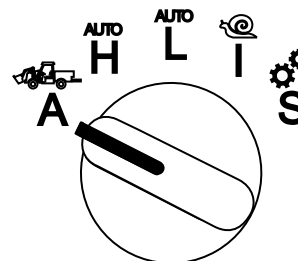

Figure 24
33. Turn the mode selector knob the ATTACHMENT position (Figure 24).